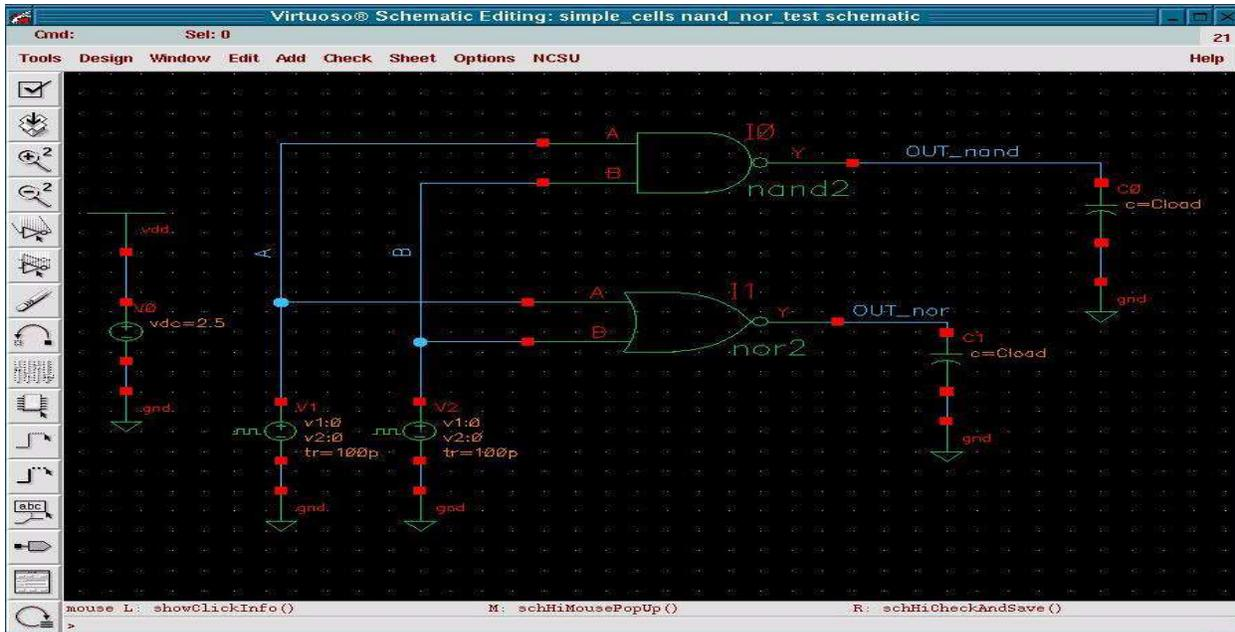

Figure 5: Schematic testbench 'nand\_nor\_test' to test NAND and NOR gates.
5. After creating the schematic and symbol cellviews of the NAND and NOR inverter, the next step is to perform SPICE simulations. To do this, we have to create another testbench schematic. Create a schematic called 'nand\_nor\_test'. Instantiate a nand and a nor gate.1 Also create a capacitor for each output and a gnd connection (capacitor value set again to variable Cload). Like what you did for the schematic, instantiate a 'vdc' cell with the DC voltage set to 2.5V, along with the necessary vdd and gnd connections. The next step is to supply the gates with iinputs such that all possible combinations (or more practically, all interesting and important combinations) of inputs. This is a little bit more complicated than an inverter because we are now concerned about two inputs, but is still easy enough to do since all the possible input combinations (just four of them -- 00, 01, 10 and 11) can easily be generated. To do this, we can simply instantiate two 'vpulse' sources and make sure that the frequency of one source is exactly twice that of the other one. Instantiate a 'vpulse' source with the following common parameters: Voltage1 = 0, Voltage2 = 2.5, rise time=falltime=100p. For one vpulse, set Pulse width = 2n and Period = 4n. For the other vpulse, use Pulse width = 4n, Period = 8n to generate a square wave with half the frequency (twice the period) of the first. Connect the first vpulse to the A input of both gates, and the other vpulse to the B inputs. Instantiate gnd connections for both gates and then finish up everything by connecting the nodes with wires and labeling the inputs A, B and the outputs as OUT\_nand and OUT\_nor. Your final schematic should look similar to that of Figure 5.
6. The next step is to create a testbench to test the functionality of the multiplexer and then think of a set of input waveforms that can be used to perform this testing. One easy way this could be done is to generate two square waves with distinct frequencies and use another square wave with a much lower frequency to toggle the select input. This way, the output should switch from the first frequency to the second everytime the select input changes. Open the testbench for the nand and nor and instantiate a multiplexer with a capacitive load (value = Cload). Connect IN0 to A and IN1 to B. Label the output OUT\_mux. Next, instantiate a third 'vpulse' source with the same parameters as the first two except for Pulse width (set to 40n) and Period (set to 80n). Label the output of this new 'vpulse' as SEL. Now, go to Design->Save As and change the Cell name to mux\_nand\_nor\_test. Your circuit should now look similar to the one shown in Figure 5. Close this window and open the schematic 'mux\_nand\_nor\_test'.